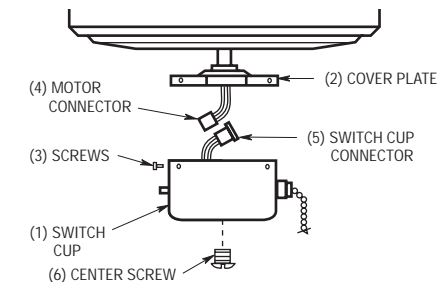

Figure 1
2. Remove the switch cup (1) from the cover plate (2) by removing the three screws (3) around the side of the switch cup (Figure 1).
3. Disconnect the motor connector (4) from the switch cup connector (5) (Figure 1).
4. Remove the center screw (6) from the switch cup (Figure 1).